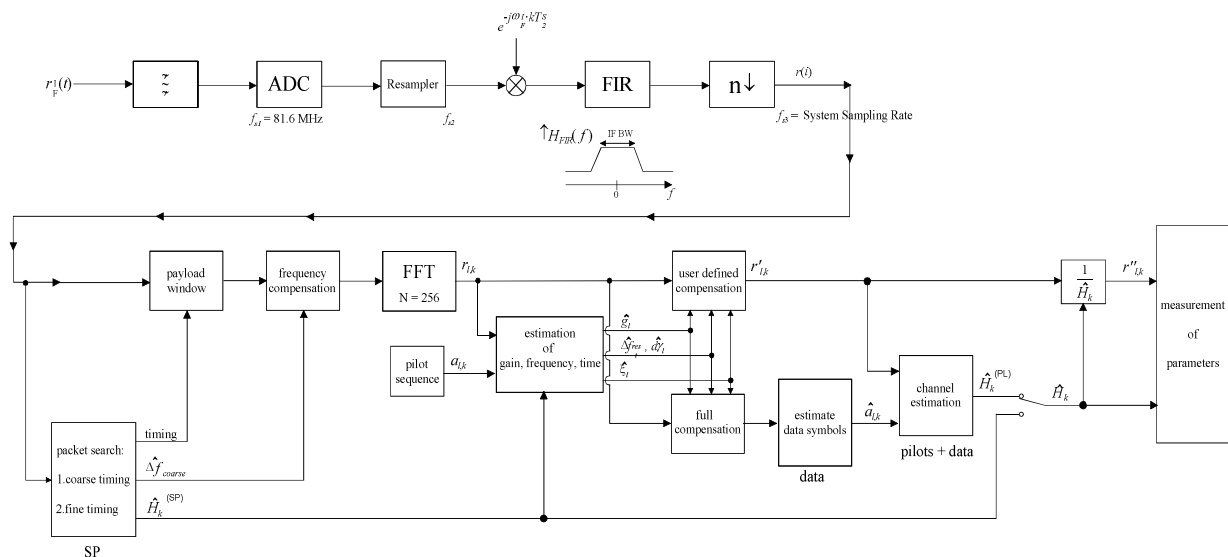

Fig. 2-90 Signal processing of the IEEE 802.16 OFDM measurement application
A diagram of the interesting blocks is shown in Fig. 2-90. First the RF signal is down-converted to the IF frequency $f_{IF} = 20.4$ MHz. The resulting IF signal $r_{IF}(t)$ is shown on the left-hand side of the figure. After bandpass filtering, the signal is sampled by an Analog to Digital Converter (ADC) at a sampling rate of $f_{s1} = 81.6$ MHz. This digital sequence is resampled to the new sampling frequency of $f_{s2} = 80$ MHz which is a multiple of the Nyquist rate (20 MHz). The subsequent digital down-converter shifts the IF signal to the complex base band. In the next step the base band signal is filtered by a FIR filter. To get an idea, the rough transfer function is plotted in the figure. This filter fulfils two tasks: first it suppresses the IF image frequency, secondly it attenuates the aliasing frequency bands caused by the subsequent down-sampling. After filtering, the sequence is sampled down by the factor of 4. Thus the sampling rate of the down-sampled sequence $r(i)$ is the Nyquist rate of $f_{s3} = 20$ MHz. Up to this point the digital part is implemented in an ASIC.
In general, the coarse frequency estimate $\hat{\Delta f}_{coarse}$ (see Fig. 2-90) is not error-free. Therefore the remaining frequency error Δf_{rest} represents the not yet compensated frequency deviation in $r_{l,k}$. Consequently the overall frequency deviation of the device under test (DUT) is calculated by $\Delta f = \hat{\Delta f}_{coarse} + \Delta f_{rest}$. Remark: The only motivation for dividing the common phase drift in equation (11) into two parts is to be able to calculate the overall frequency deviation of the DUT.